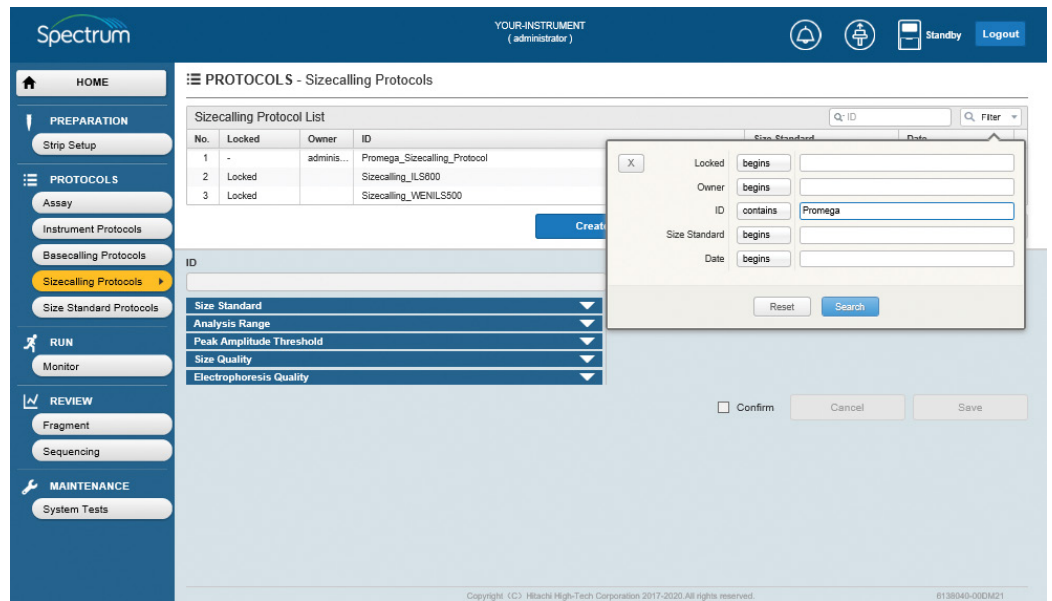

Figure 59. Sizecalling Protocol List search filter option selection.
- After selecting the appropriate filter for search terms in the field being searched (i.e., Locked, Owner, ID, Size Standard or Date), type the desired search term in the adjacent box and select **Search** (Figure 59). Alternatively, select **Reset** to exit.